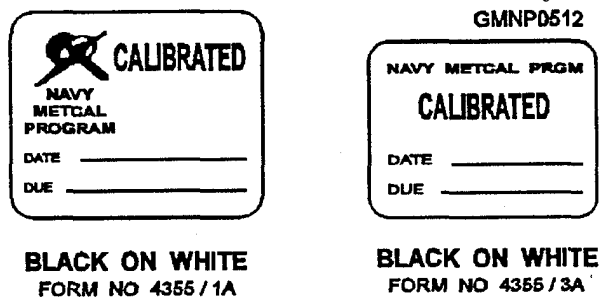

Figure 13-13.—CALIBRATED labels.
**CALIBRATED.**— The CALIBRATED label (fig. 13-13, black lettering with a white background) comes in two different sizes and is the most commonly used